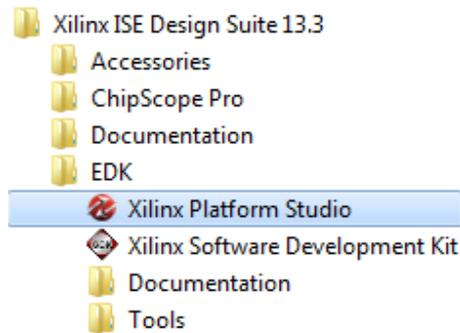

Figure 1. Starting EDK (Step 1)
**Step 1:** We start by building the hardware using the XPS. Start XPS using the program menu as shown in Figure 1.